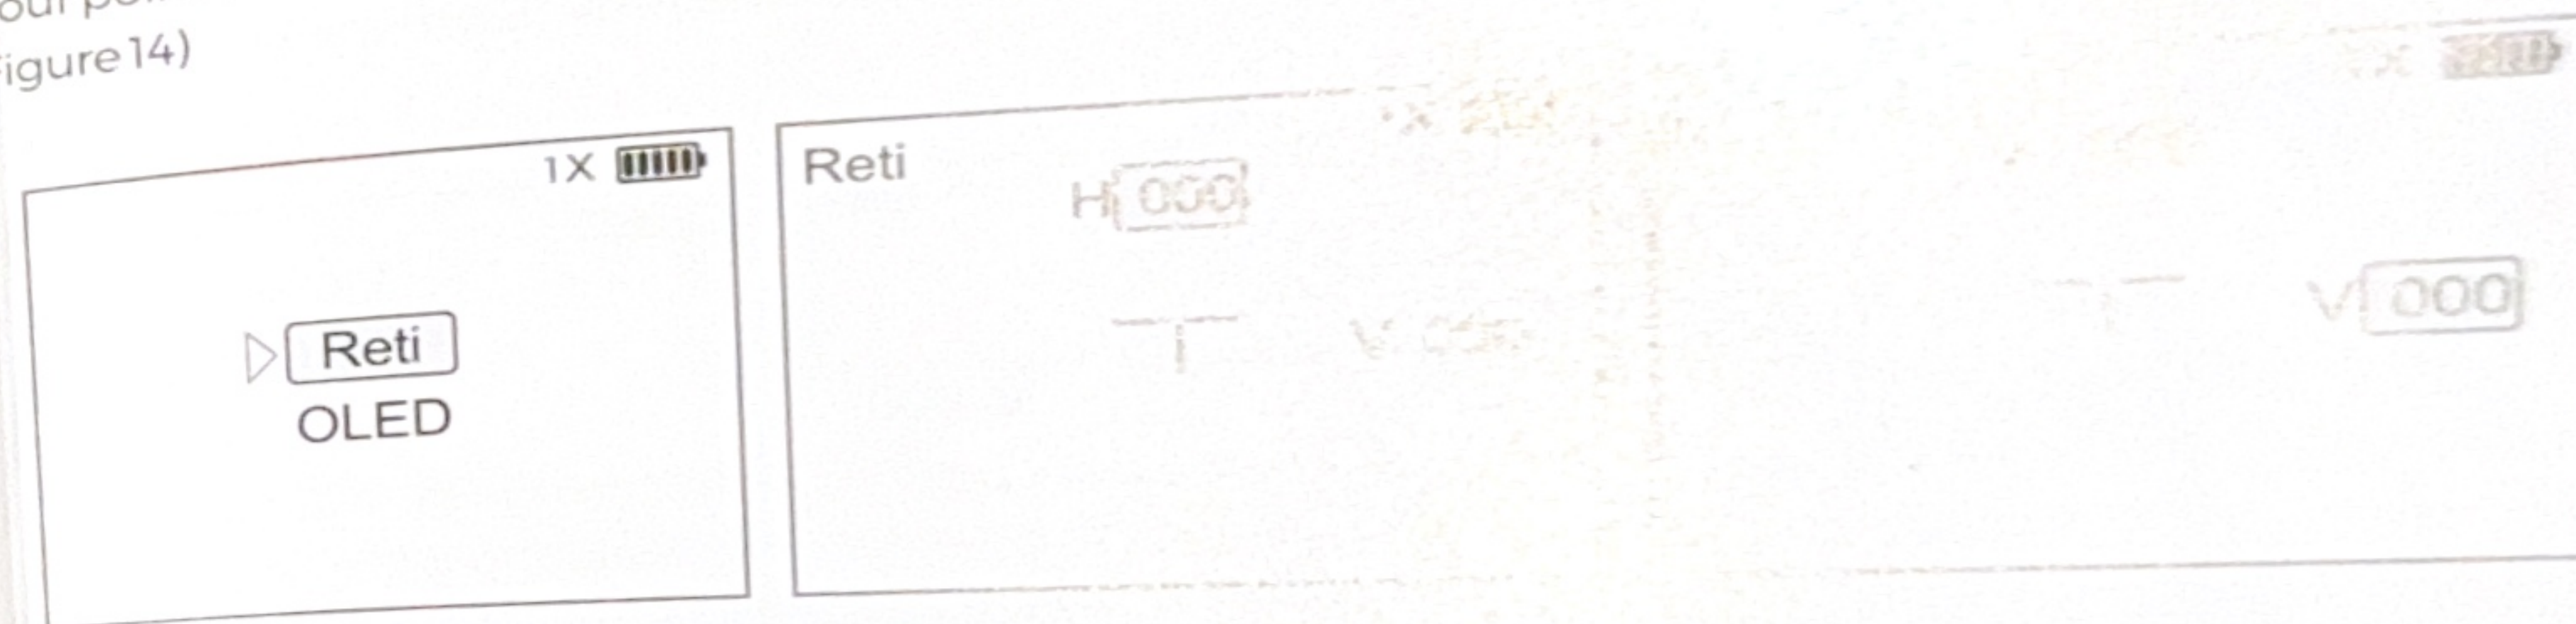

Fig 14
a. Digital Reticle Zeroing: Zeroing can be performed only when the magnification is 1X. Click the  button to enter the Reti settings interface. Press  button to select between the X and Y axis. Press the  and  buttons to adjust the horizontal (H: -150-150) and vertical (V: -150-150) parameters to adjust the reticle position. This adjustment will move the digital reticle to match your point of aim with your point of impact or co-witness with your red dot sight reticle. (See Figure 14)